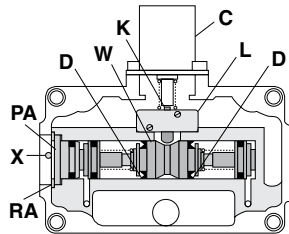

Figure 12 – Cross Section of E-P Monitor
The operating voltage range for the reset solenoid C (Figure 12) appears on a label attached to the solenoid cover. The voltage at the solenoid terminals should fall within this range during actuation. To check, remove monitor cover and attach voltmeter leads to terminals 8 and 9. Note the voltage during actuation of the solenoid.
Faulty seals D on spool W (Figure 12) can allow leakage of monitoring air pressures. This can result in either nuisance lockouts or failure of the E-P monitor to lockout when it should, thus creating the potential for personal injury or damage to equipment. To remove the spool for inspection, first shut off electrical power to the solenoids. Then shut off, exhaust, and lock out the air supply. Proceed as follows:
4. Observe actuator pin K (Figure 12). If it is extended, use the tip of a screwdriver to push it into the retracted position.